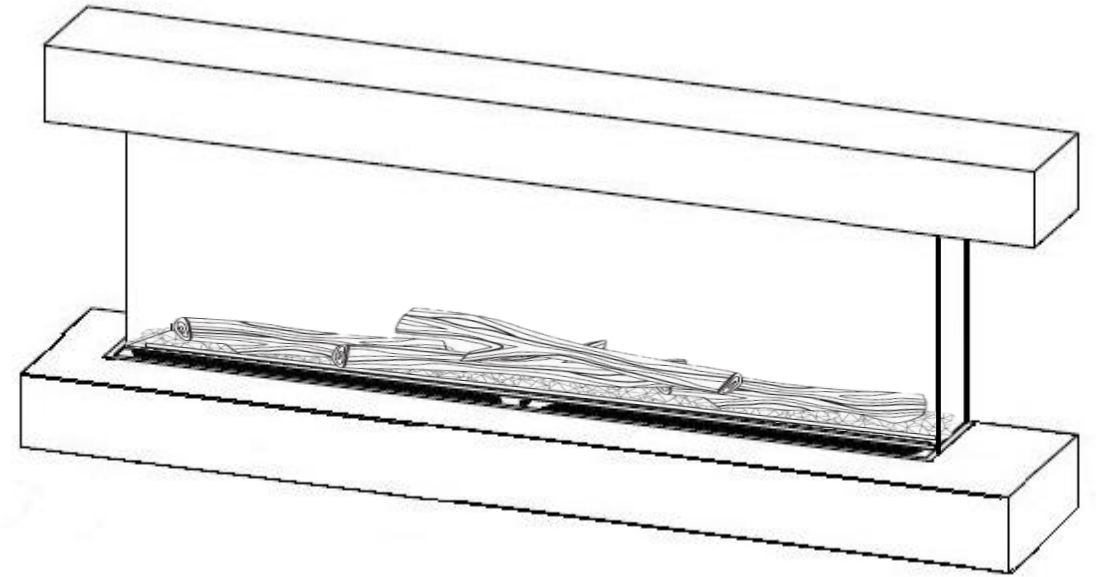

Figure 18
- Now locate your top cabinet. Remember it must have a notch on the inside to allow for power. Same steps performed as the bottom cabinet install with the addition of making sure to hide any cables and install it. (*see figure 18*)